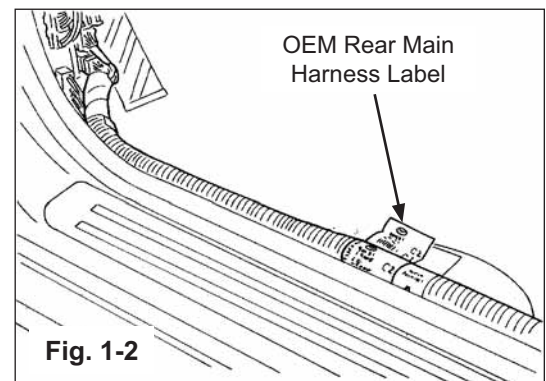

Fig. 1-2
- a) Locate the OEM Rear Main Harness label, attached to the OEM harness under the driver-side scuff plate. (Fig. 1-2)